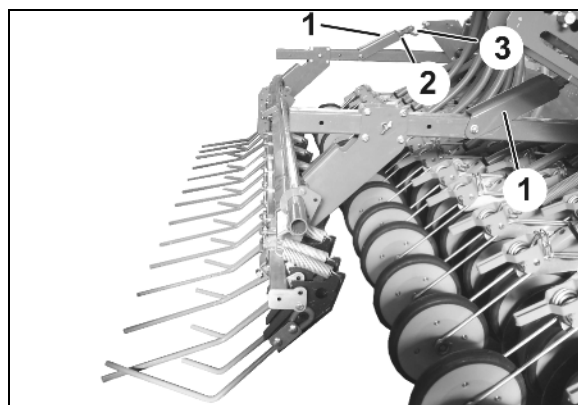

Fig. 93
The setting is achieved by lengthening or shortening the upper harrow suspension (Fig. 93/1):
3. Slacken the counter nut (Fig. 93/2).
4. Adjust the upper harrow suspension on all fixing points (Fig. 93/1) to an equal measure of length. For this turn all bolts (Fig. 93/3) equally.
5. After setting, retighten the counter nut (Fig. 93/2) firmly.